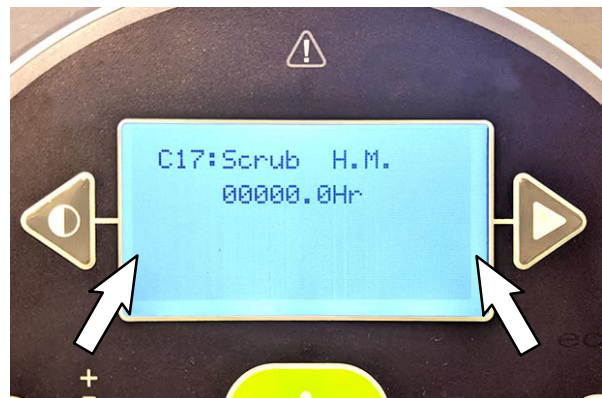
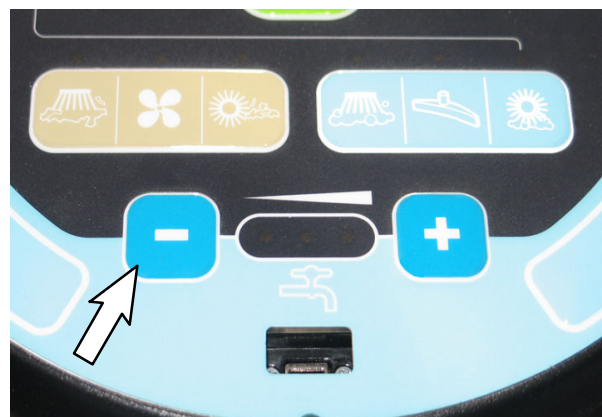

FIG. 35
FIG. 36
- Log in to C17: Scrub H.M. (hour meter reset password is 0000): Press the minus (-) button to enter 0 (zero) at first asterisk. Press the right arrow button to move to next asterisk and again press the minus (-) button to enter 0 (zero). Repeat for the remaining asterisks. Press the main scrub brush pressure button when finished. (Fig. 35/Fig. 36)